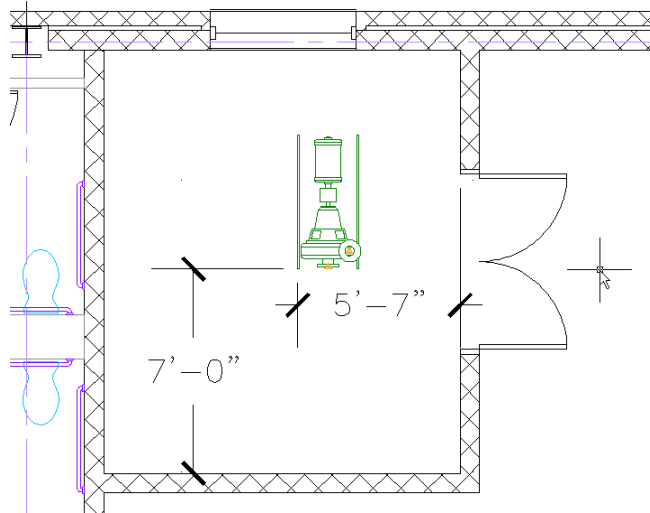

Figure 6.35
5. In the drawing window, click to place the pump on the right side of the Fire Protection room with the motor pointing towards the exterior wall approximately in the position shown in Figure 6.35.